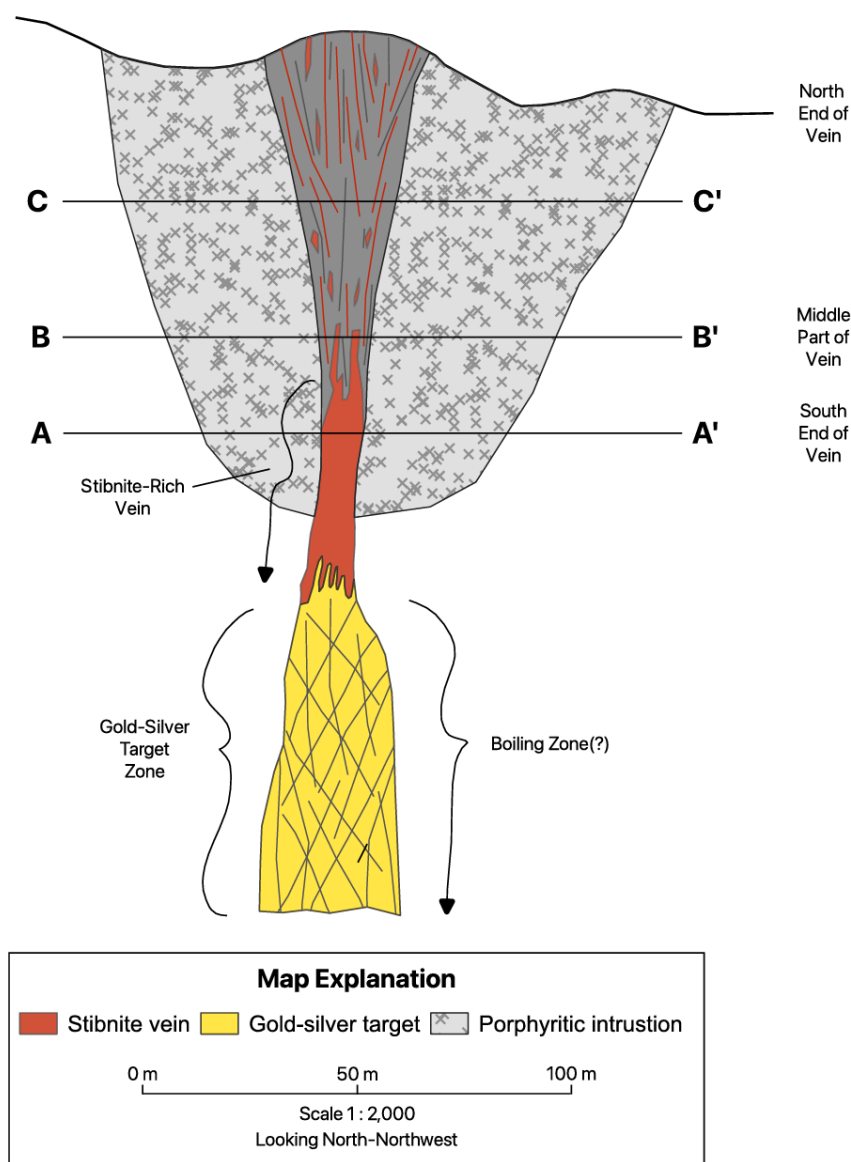

Figure 4: Conceptual Model for the Antimony Gulch prospect
2. Epithermal and breccia-style gold-silver deposits at depth. A suggested possible model for exploration could be represented in Figure 4.